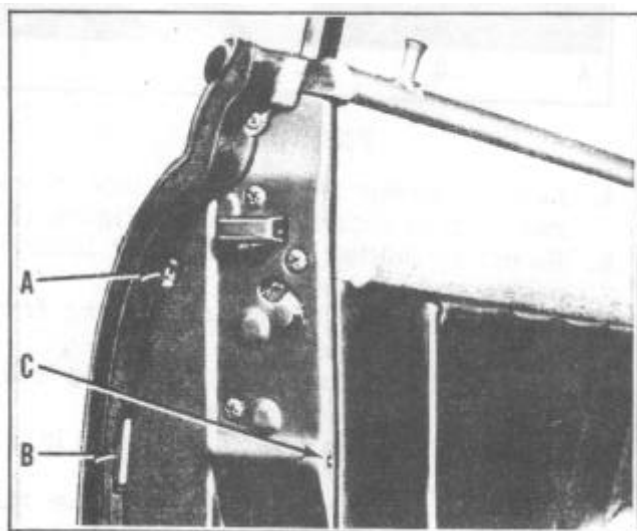
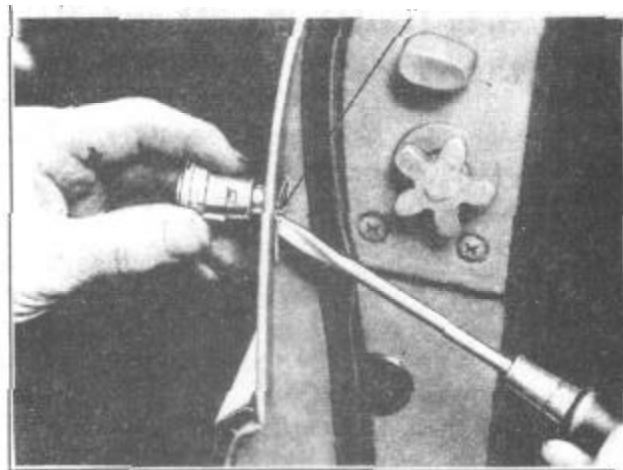
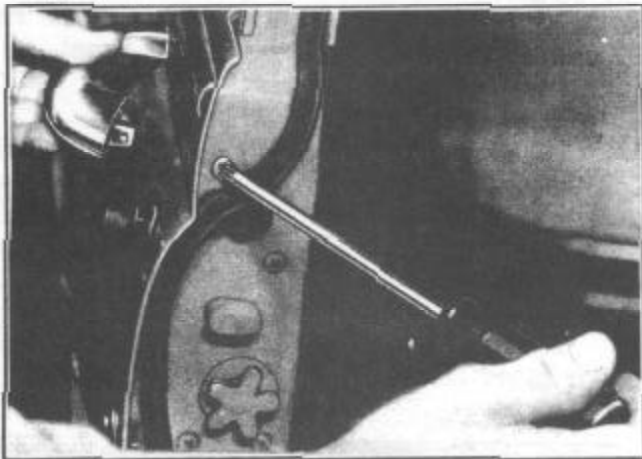

FIGURE 10
FIGURE 11
FIGURE 16
1. Insert a screw driver between the flanged end of the lock retainer and door panel and pry retainer (B), Figure 10 and (A), Figure 11, outward.
1. From inside of door, insert a piece of pointed spring steel wire through the hole (C), Figure 10, in the door to the outside panel.
3. Remove window glass - follow operations (3), (4) and (5) under "Door Glass Removal" .
4. Remove retainer clip from door lock cylinder, see "Lock Cylinder Removal", Figure 11.
1. Through the access hole (A) in the door, Figure 10 (for all models except 1C, 1D, 2C, 2D and 3D) and Figure 16 for (Models 1C, 1D, 2C, 2D and 3D), remove the door handle retaining screw attaching door handle to door outside panel.